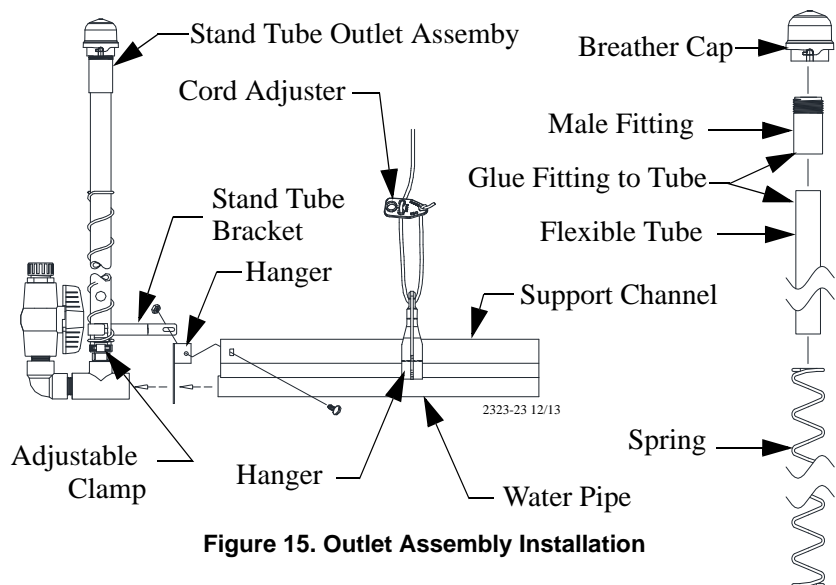

Figure 15. Outlet Assembly Installation
Install the outlet assembly, as shown in **Figure 15**.
3. Secure the hanger to the support channel, as shown in **Figure 15**. If the water line was shortened to terminate under a suspension drop line, it may be necessary to drill a hole in the support channel for the 10-24 stainless truss head screw and lock nut. The hanger may be used as a template to determine proper hole location.